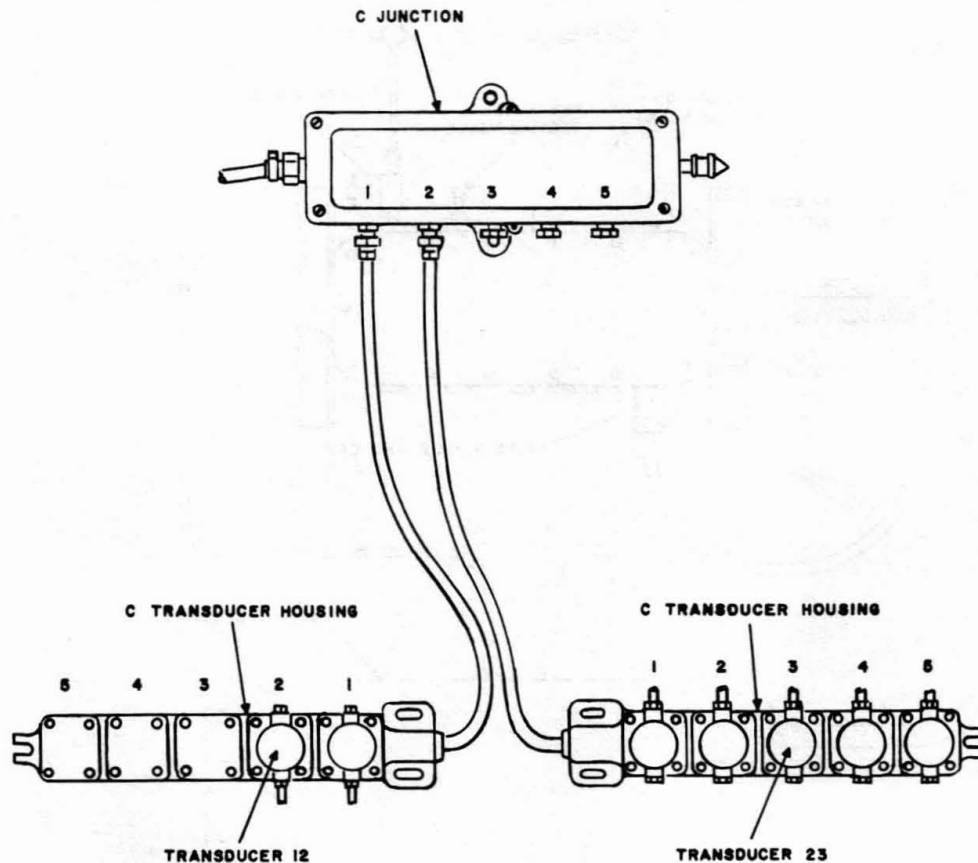

Fig. 15—Transducer Identification
7.02 Figure 15 gives two examples of transducer identification.